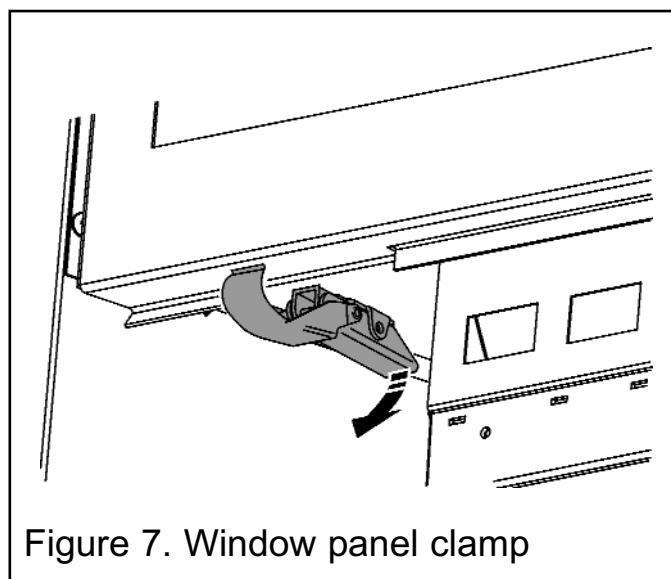

Figure 7. Window panel clamp
**3.** The window panel is secured at the bottom with two clamps. To release the clamps, hold at the rear and pull down (See figure 7).